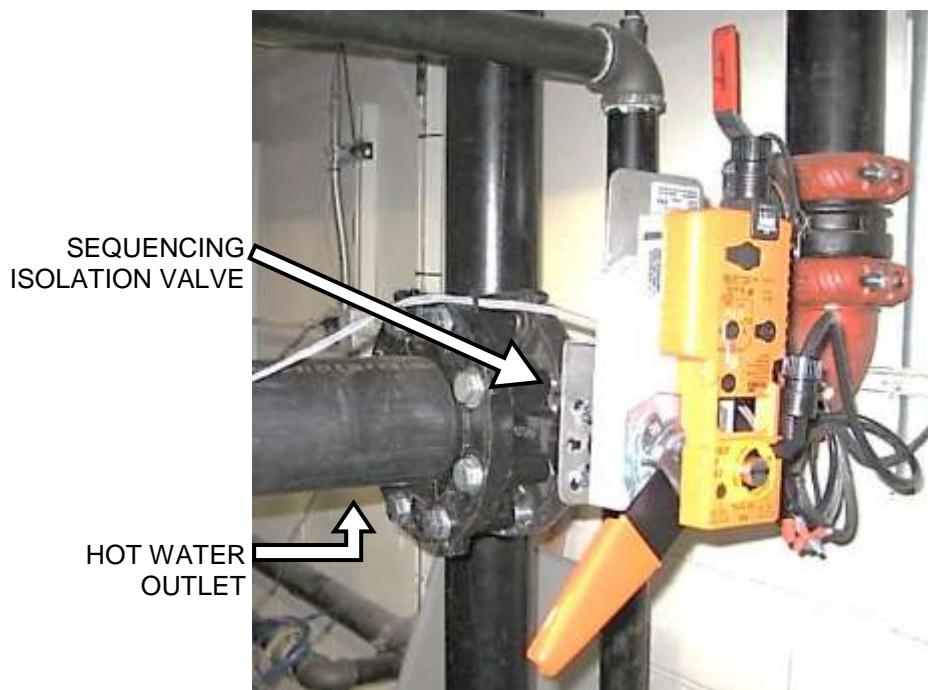

Figure 2-18: Sequencing Isolation Valve Installed
1. Install the sequencing isolation valve in the boiler's hot water outlet pipe (Figure 2-18).